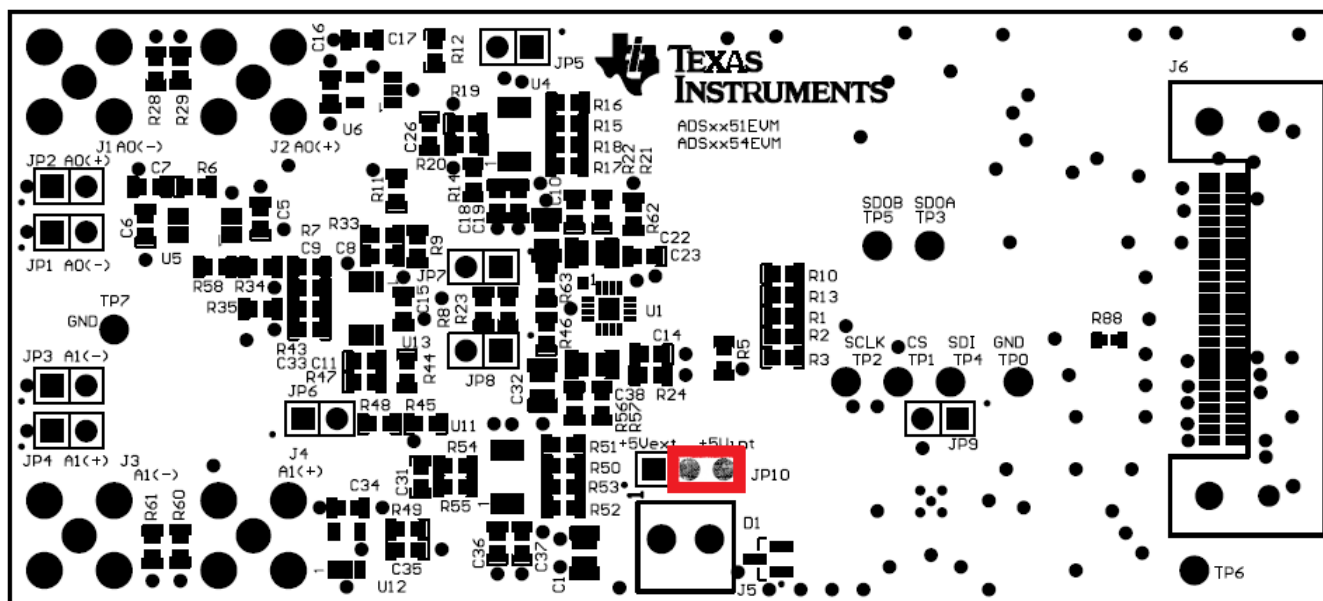

Figure 4. ADS7851EVM Default Jumper Settings
A silkscreen plot detailing the default jumper settings is shown in Figure 4. Table 5 explains the configuration for these jumpers.
- Step 2. Verify the ADS7851EVM jumpers are configured as shown in Figure 4.